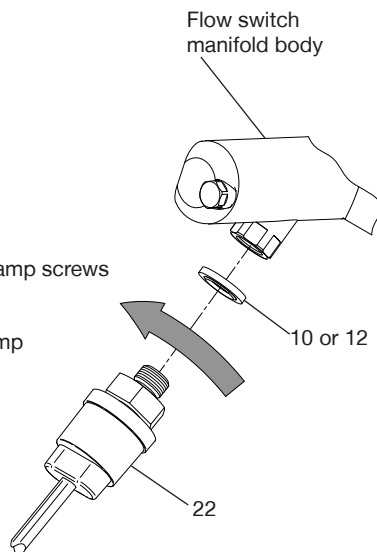

Fig. 34
- Unscrew the pressure switch and seal from the flow switch manifold body (Fig 34).